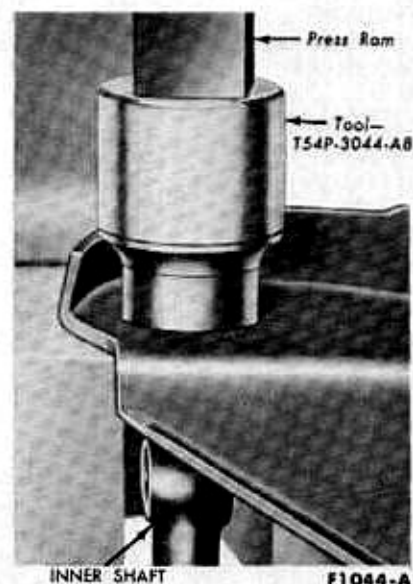

FIG. 6—Upper Arm Front Bushing Installation
5. Insert the end of the inner shaft in the rear bushing, and press a new front bushing into the arm (Fig. 6).